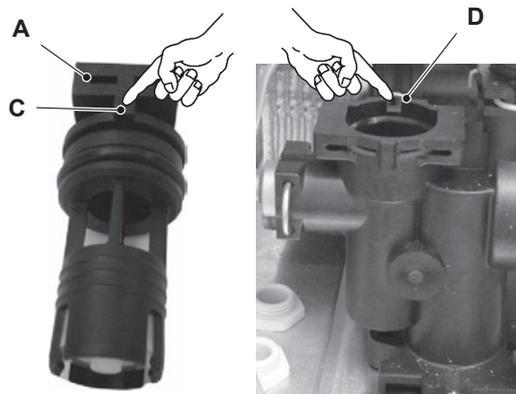

Figure 16.3
- 3 Remove the locking plate B and pull up the by-pass valve A (Figure 16.3).
**Attention:** when reassembling the By-pass valve be sure that it is correctly oriented by matching the reference C with the notch D of the water group Figure 16.3.